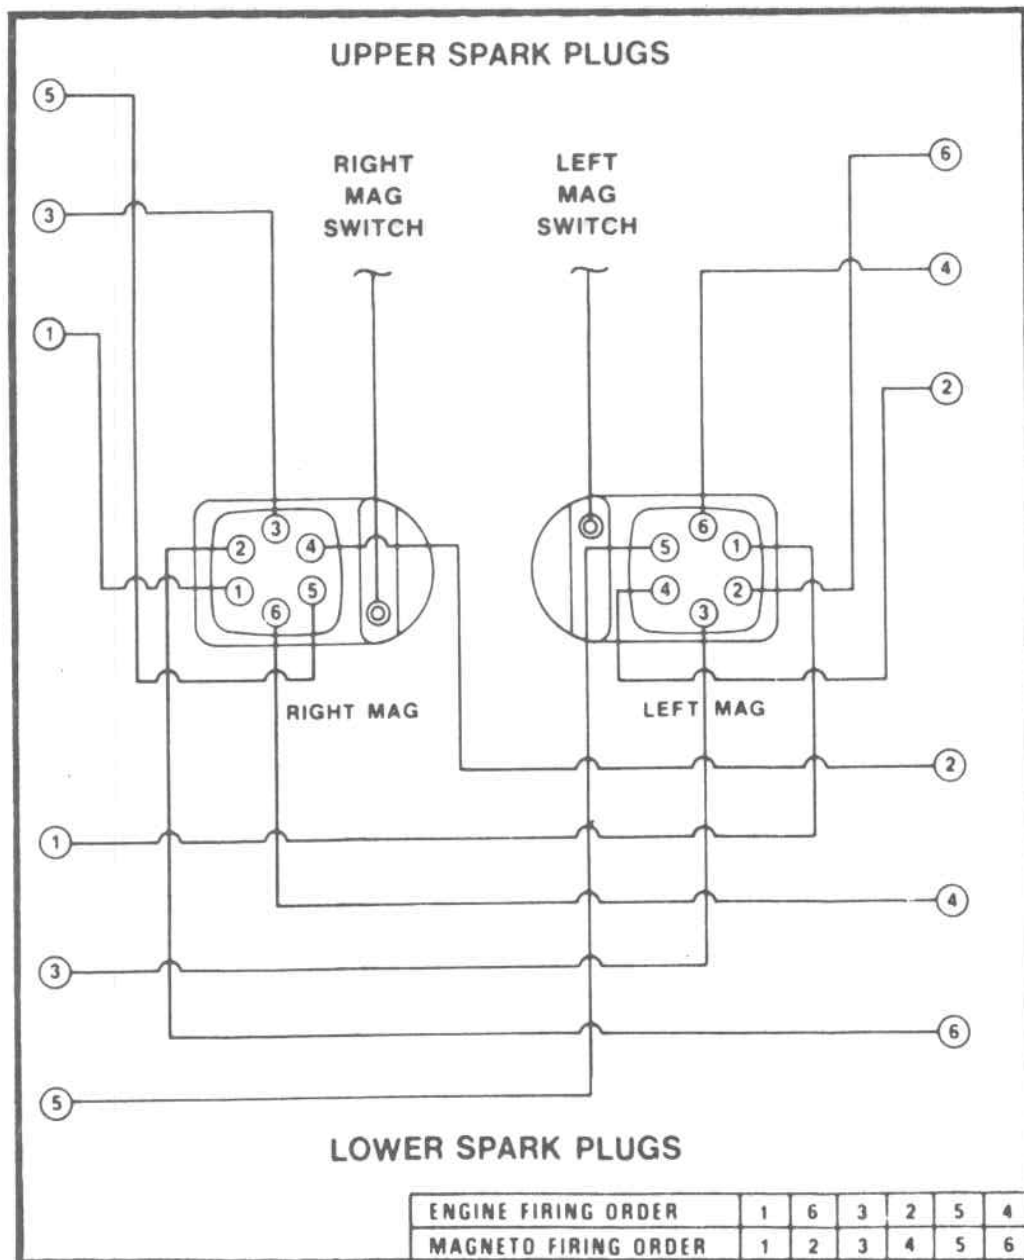

FIGURE 72-20-27.
Observe the "1" mark on the exterior side of each outlet plate adjacent to the No. 1 cable outlet hole, (Refer to Figure 72-20-27), and observe that the numerals appearing at magneto ends of the high tension cables correspond to the consecutive order of outlet plate cable holes, while the relative positions of spark plug elbows indicate the installed position of the cables. Install cable assemblies (3 through 14, Figure 72-10-05) in the indicated positions in the two outlet plate and grommet assemblies (1 and 2), starting with the proper No. 1 cable assembly in the marked hole of each plate, and proceeding in consecutive order around the plates. As each cable end is inserted, screw in the cable coupling nut (33), and tighten it; then place one of the brass washers (16) and a cable piercing screw (17) at the grommet hole, and turn the screw in firmly, but not enough to cut the wire strands.